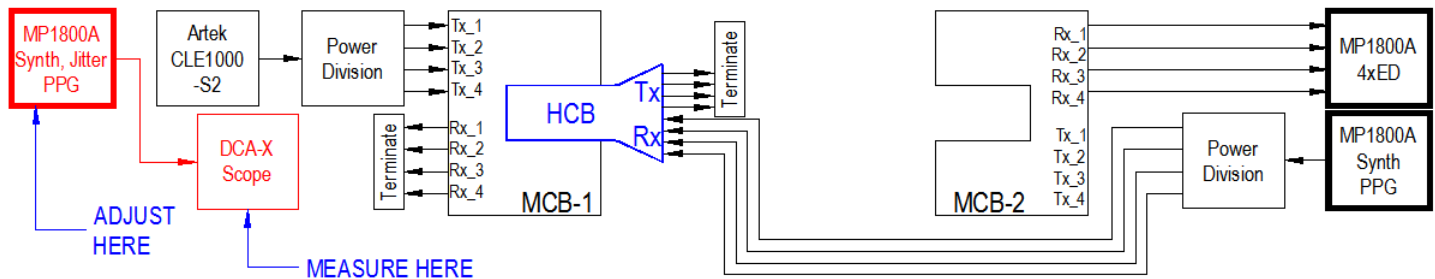

Figure 15. Baseline PPG Jitter setup
**Goal: Set the baseline pattern generator jitter stresses for all forward propagating traffic.** Intrinsic jitter characteristics targets for Random Jitter, Bounded Uncorrelated Jitter (BUJ), Odd/Even Jitter and Sinusoidal Jitter (SJ) are adjusted and verified in this calibration step. Forward traffic generator is measured directly at the output of the pattern generator as shown in Figure 15 below. Red entities indicate the relevant signal sources, paths and measurement equipment.